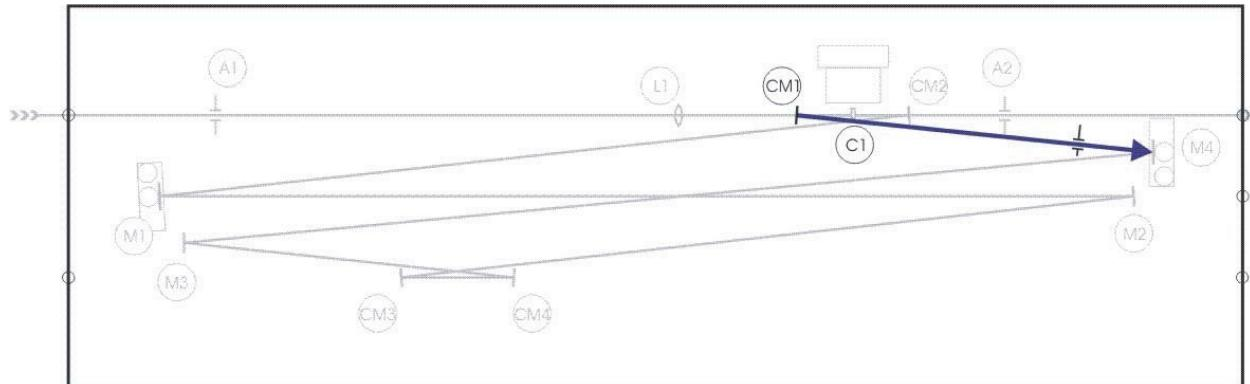

Figure 5.8.: Align CM1 to center green pump spot on M4. Use plug aperture position A11.
- Place the plug aperture at position A11. Use the pump beam backward reflection from the crystal and adjust CM1 to center spot on M4 (Fig. 5.8).